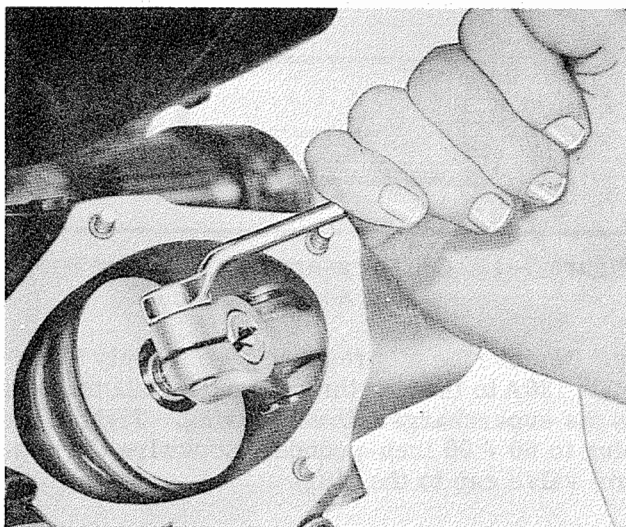

Figure 7-12. Loosening Adjusting Screw Lock Screw
- b. With both valves in the cylinder closed, loosen the adjusting screw lock screw with wrench 807004. See figure 7-12. Turn the adjusting screw out one or two turns with a broad blade screwdriver.